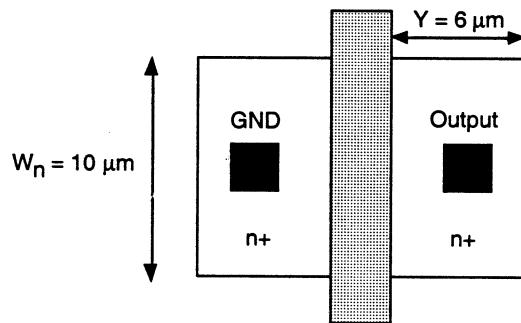

Figure P3.6
**3.6** Consider a layout of an nMOS transistor shown in Fig.P3.6.